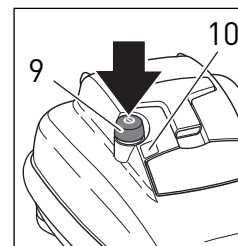

Figure 2 - K3
The "bag full or clog" light (#10, figure 2) works correctly only at full power. At lower power levels, the "bag full or clog" light may illuminate incorrectly. Check the status of the filter bag regularly at full power. If the light remains illuminated at full power, and the filter bag is not full, check for clogs (see page 12).
3. Press the main power control knob (9) on the base of the canister gently with your foot or hand. The green light (10) will illuminate indicating that the power is on (figure 2).